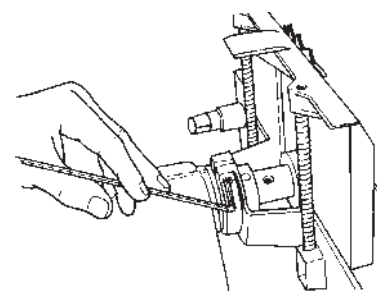

Figure B-107
81. Use the 5/32" Allen wrench to tighten the socket head screw (215) on the saw guard collar, as seen in Figure B-107.